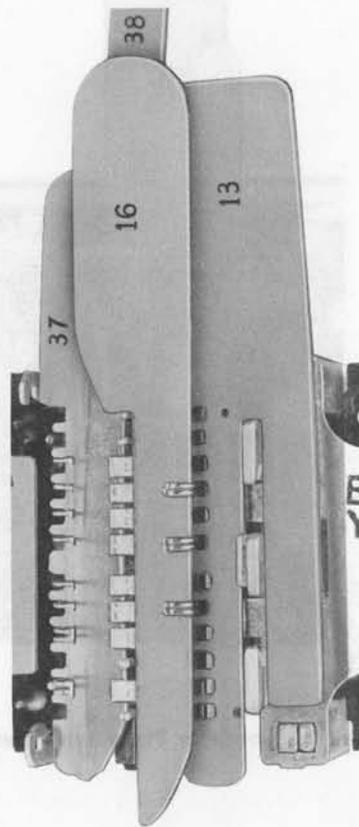

Fig. 12—Card Removed
4.17 Using the KS-6320 orange stick, hold down the armature in the unoperated position and with the KS-8511 tweezers disengage the card from the armature leg notches and remove the card (Fig. 12).